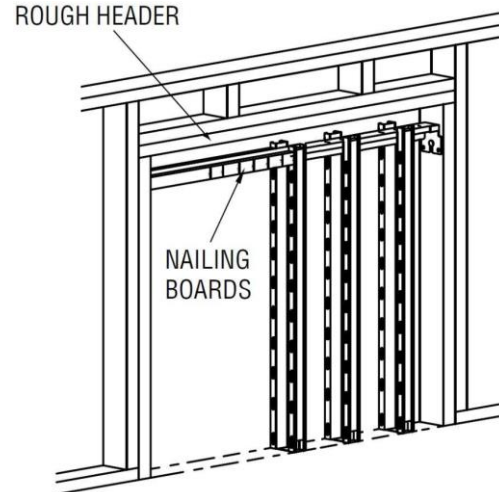

Figure 8
- Nail the other two pairs of split studs to the header. Make sure each pair of split studs are equally spaced from the other pairs of split studs, as seen in Figure 8